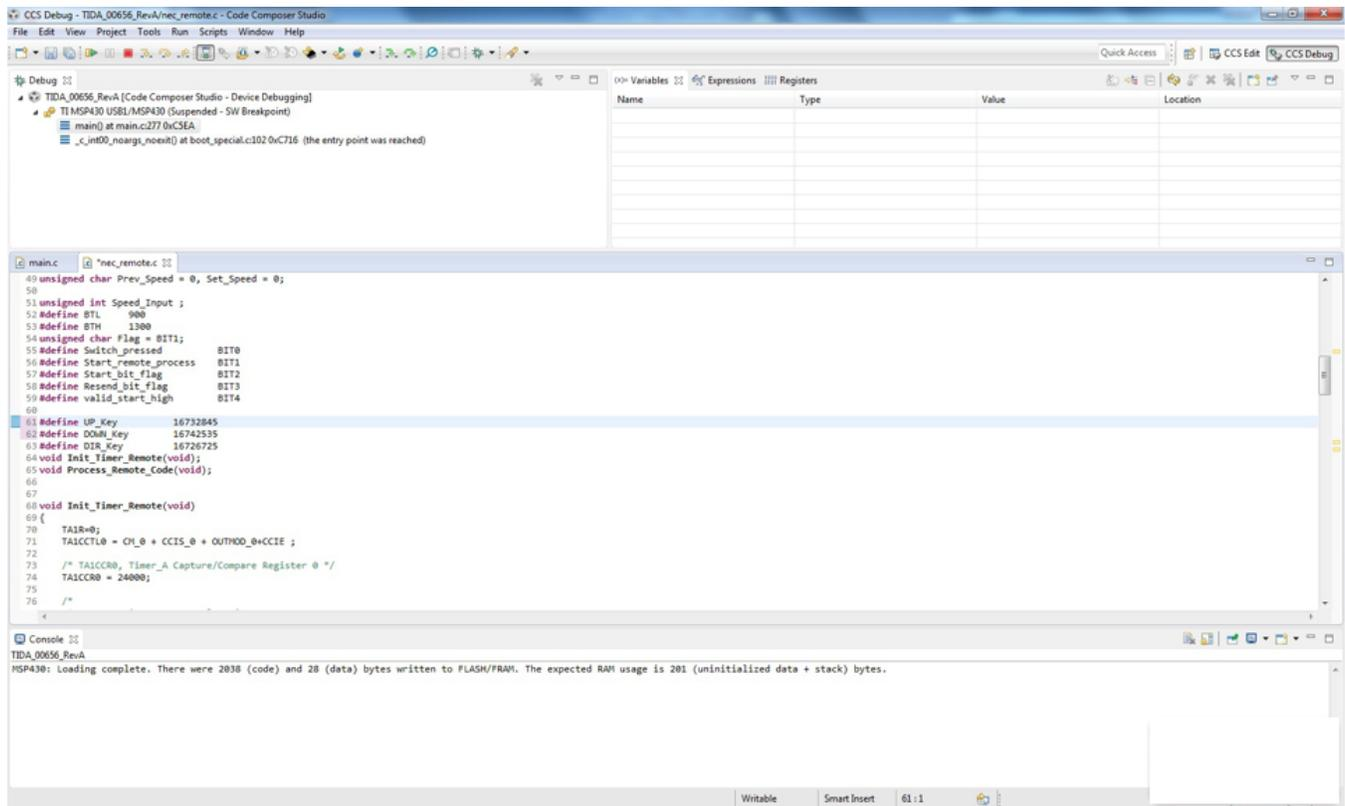

Figure 8. Placing Key Codes Corresponding to Functions
- Read the value of the *Last_Switch* variable. The values can be hard coded in the program (*ir_remote.c*), as the following Figure 8 shows.